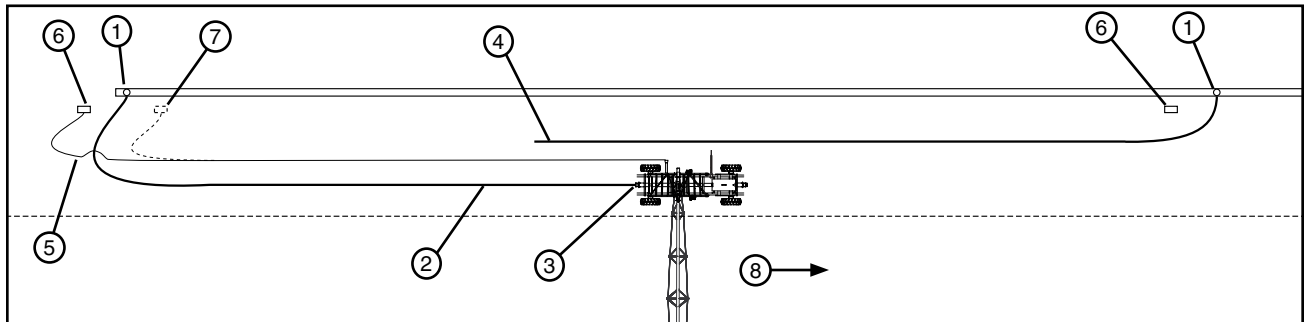

Figure 55-1 1. Shut Off Valve 4. Second hose 7. Alternate Power Pedestal Location and Electric Cord Position
8. If applicable, prepare the second hose by connecting the riser end to the pipeline shut off valve. Position second hose approximately 15 ft (4.57 m) from the center of the linear cart toward the pipeline. See Figure 55-1.
9. Allow the linear cart to move past the end of the second hose approximately 50 ft (15.24 m). Stop the machine. See Figure 55-1.